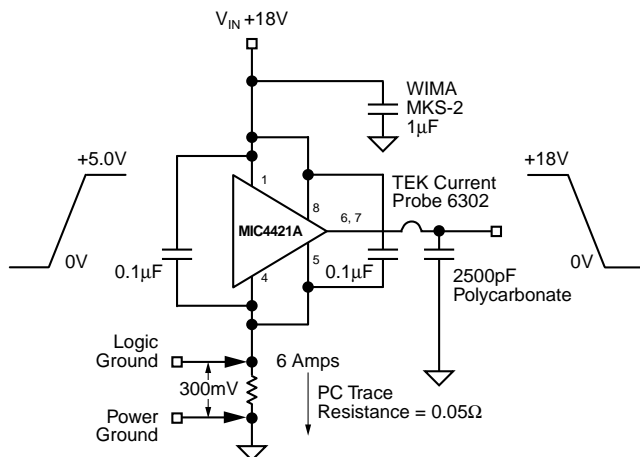

Figure 7. Switching Time Degradation Due to Negative Feedback
Figure 7 shows the feedback effect in detail. As the MIC4421A input begins to go positive, the output goes negative and several amperes of current flow in the ground lead. As little as 0.05 Ω of PC trace resistance can produce hundreds of millivolts at the MIC4421A ground pins. If the driving logic is referenced to power ground, the effective logic input level is reduced and oscillation may result.
- P_T = Power dissipated in a driver when the output changes states ("shoot-through current") in Watts. NOTE: The "shoot-through" current from a dual transition (once up, once down) for both drivers is stated in Figure 7 in ampere-nanoseconds. This figure must be multiplied by the number of repetitions per second (frequency) to find Watts.